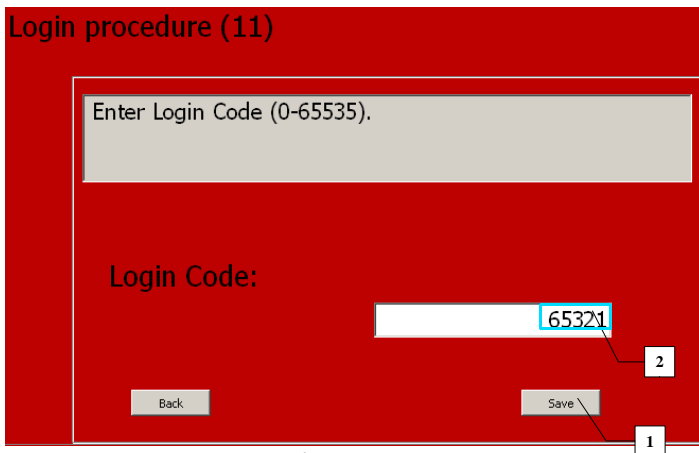

Figure 5.33
In some control units you have to input an authorization code/password in order to perform certain settings (changing keys etc.). This is done using the Login procedure option (Figure 5.33). After you input the password (1) and press the Save button (2), the program asks you for confirmation of unlocking.